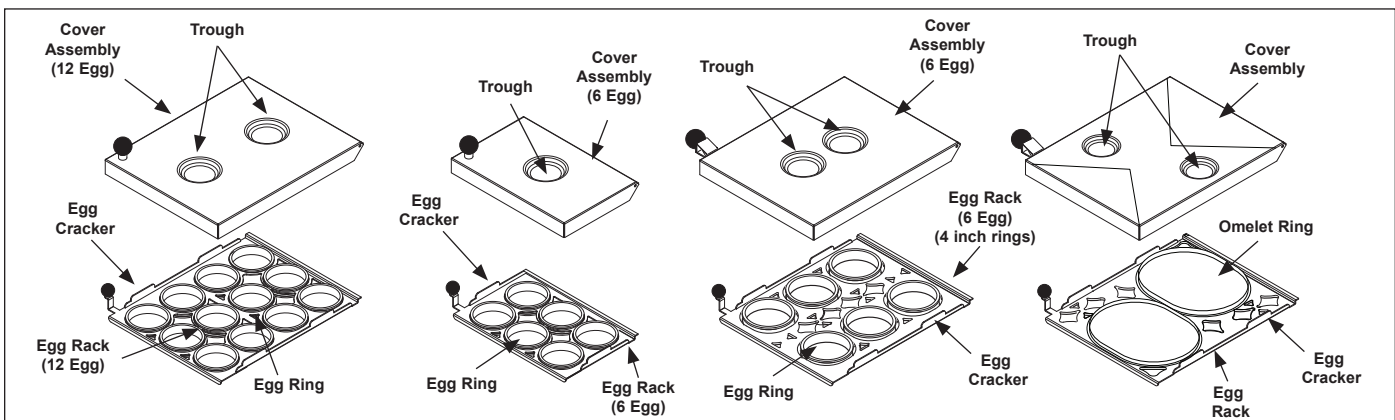

Figure 3. Cover Assembly (12 Egg Rings, 6 Egg Rings, and 2 Omelet Rings)
4. Install the Egg Rings into the Egg Rack (Figure 3). Make sure the Egg Rings are seated flat on the Platen surface.